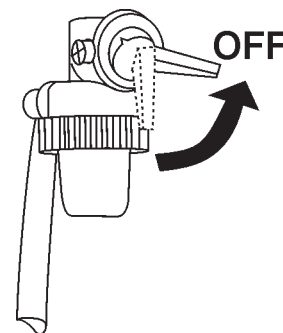

Figure 24. Engine Fuel Valve Lever (OFF Position)
4. Place the engine **fuel valve lever** (Figure 24) to the "OFF" position."